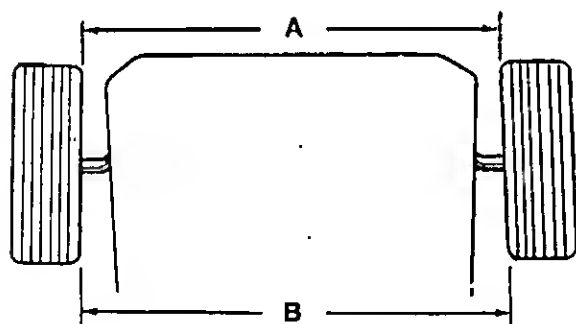

FIGURE 21.
2. Adjust the tie rod in or out until the wheels toe-in approximately 1/8" (Dimension "A" should be approximately 1/8" less than dimension "B"). See figure 21.